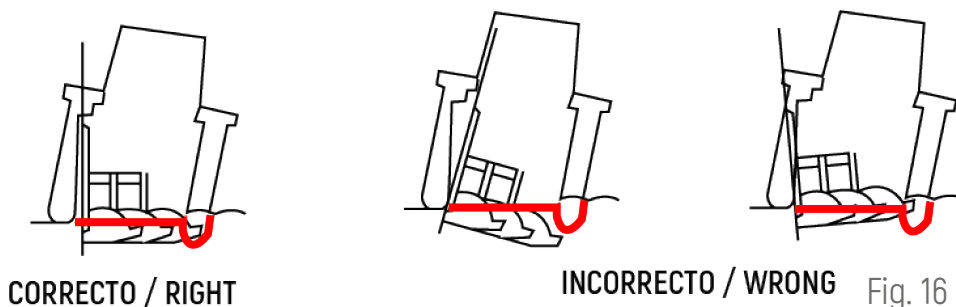
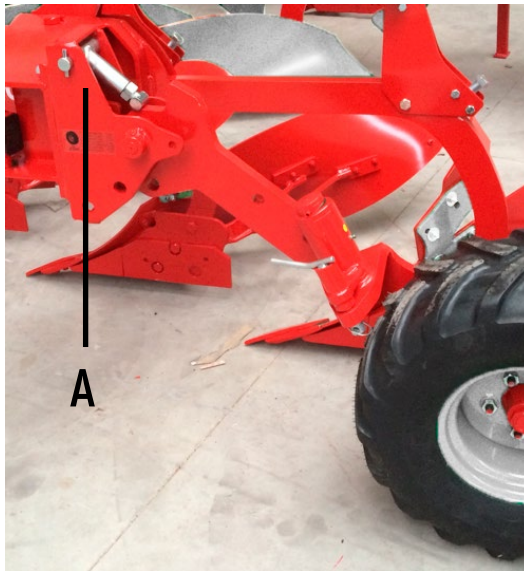

Fig. 16
Fig. 17
For the same reason, you must check (while laboring) that the anchors adopt a perpendicular position to the ground (Fig. 16). For that, we need the tines of the tractor to be at the same height AND ACT OVER THE TURNING TOPS (A) FOUND AT BOTH SIDES OF THE HEADSTOCK (Fig. 17).
The working depth is regulated through the lifting pull of the tractor. Nonetheless, in order to obtain an even working width in order to save power, all ploughs must be equipped with a depth-limiting wheel (Fig. 17) which height is regulated through the threaded tops A, as the figure 17 indicates.